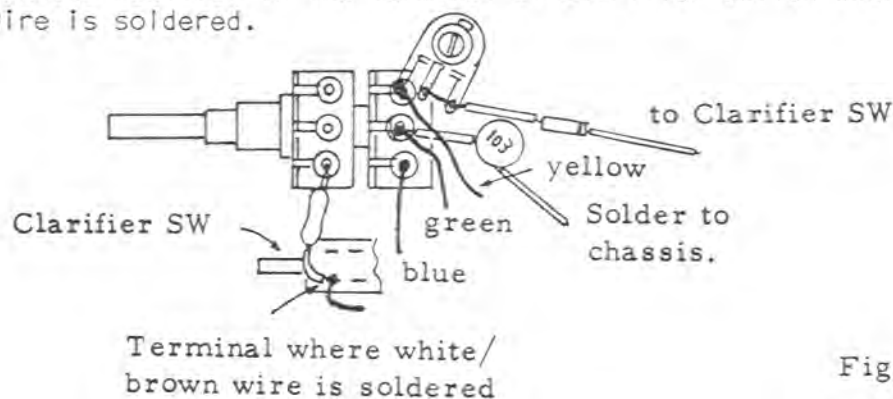

Fig. 6-4
10. Install the new potentiometer soldered in Step 8. Resolder all wiring removed in Step 9 as illustrated in Fig.6-4. Solder the other end of the 10K ohm resistor to the terminal of clarifier switch where a white/brown wire is soldered.